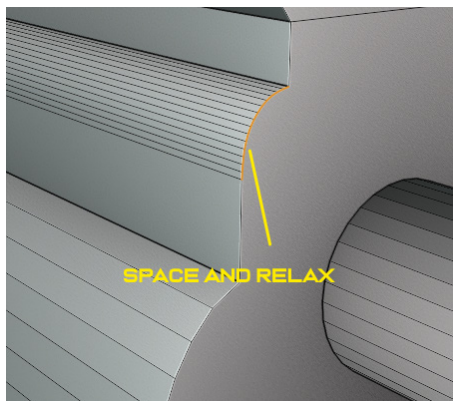

Figure 3.17 – Spacing and relaxing
4. Repeat the same process of spacing and relaxing on the upper bevel, but this time we will only select the round edges and not the straight edge at the bottom, like in *Figure 3.17*. Again, remember to do this on the back and on the other side as well.